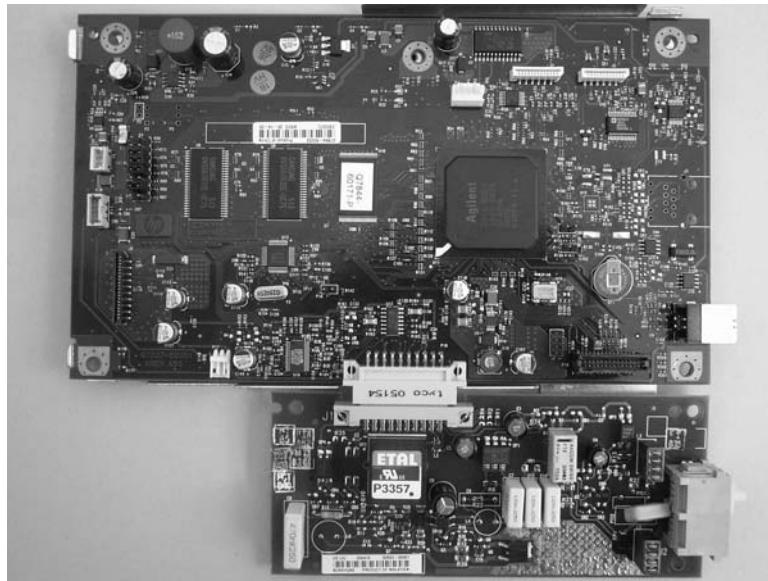

Figure 5-122 HP LaserJet 3050 all-in-one formatter and LIU
- Figure 5-122 HP LaserJet 3050 all-in-one formatter and LIU on page 179 shows the formatter and LIU from an HP LaserJet 3050 all-in-one.